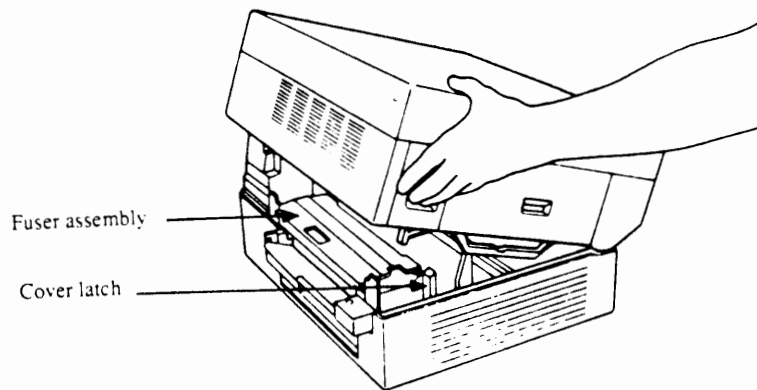
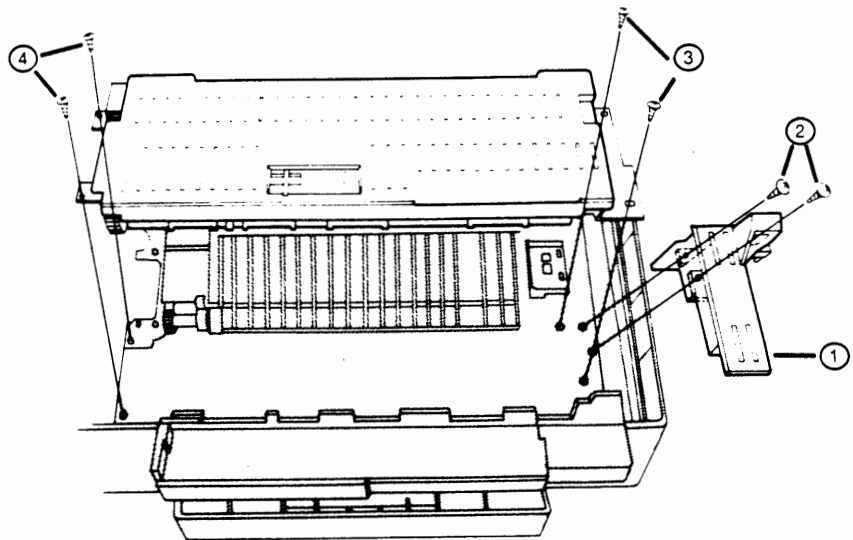

FIGURE 2-19
FIGURE 2-20
The Fuser Assembly (Figure 2-19) consists mainly of two rollers and a heater bulb. The combination of heat and pressure provided by this assembly fuses the toner onto the paper. This assembly also contains two sensors (the thermistor and the thermoprotector) that allow the printer to regulate the temperature of the rollers.
2. Locate the cover latch unit, a gray plastic piece at the front end of the assembly (Figure 2-19 and Figure 2-20, #1). Remove the two black screws at the base of the cover latch unit (Figure 2-20, #2), and lift the unit out of the printer.
3. Remove the two black screws at the front end of the fuser assembly (Figure 2-20, #3).
6. Remove the two screws from the brass-colored tabs at the rear end of the fuser assembly (Figure 2-20, #4).